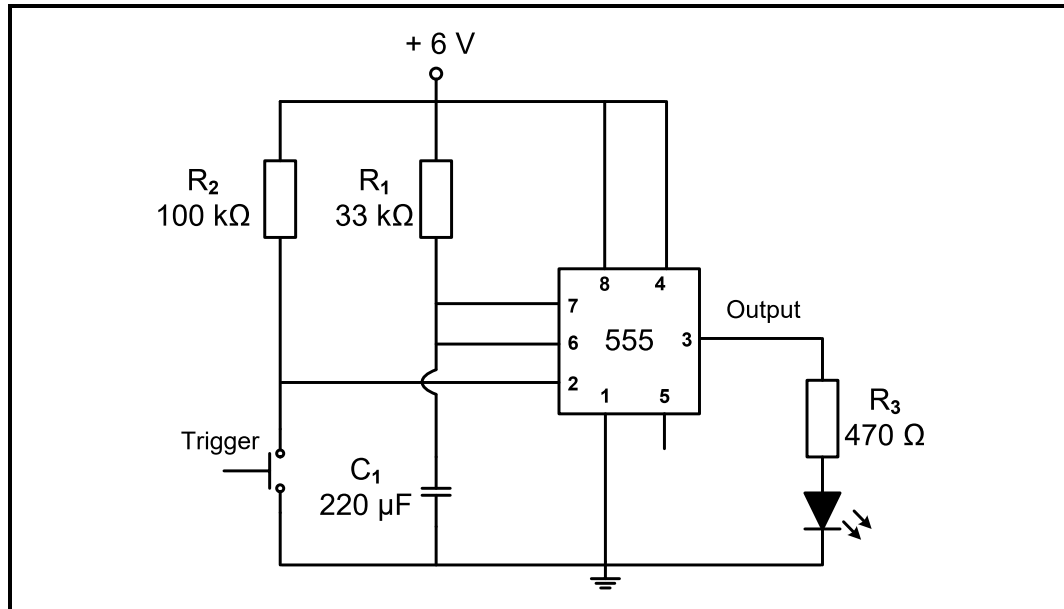

FIGURE 3.3: MONOSTABLE MULTIVIBRATOR
3.3 Refer to FIGURE 3.3 below and answer the questions that follow.